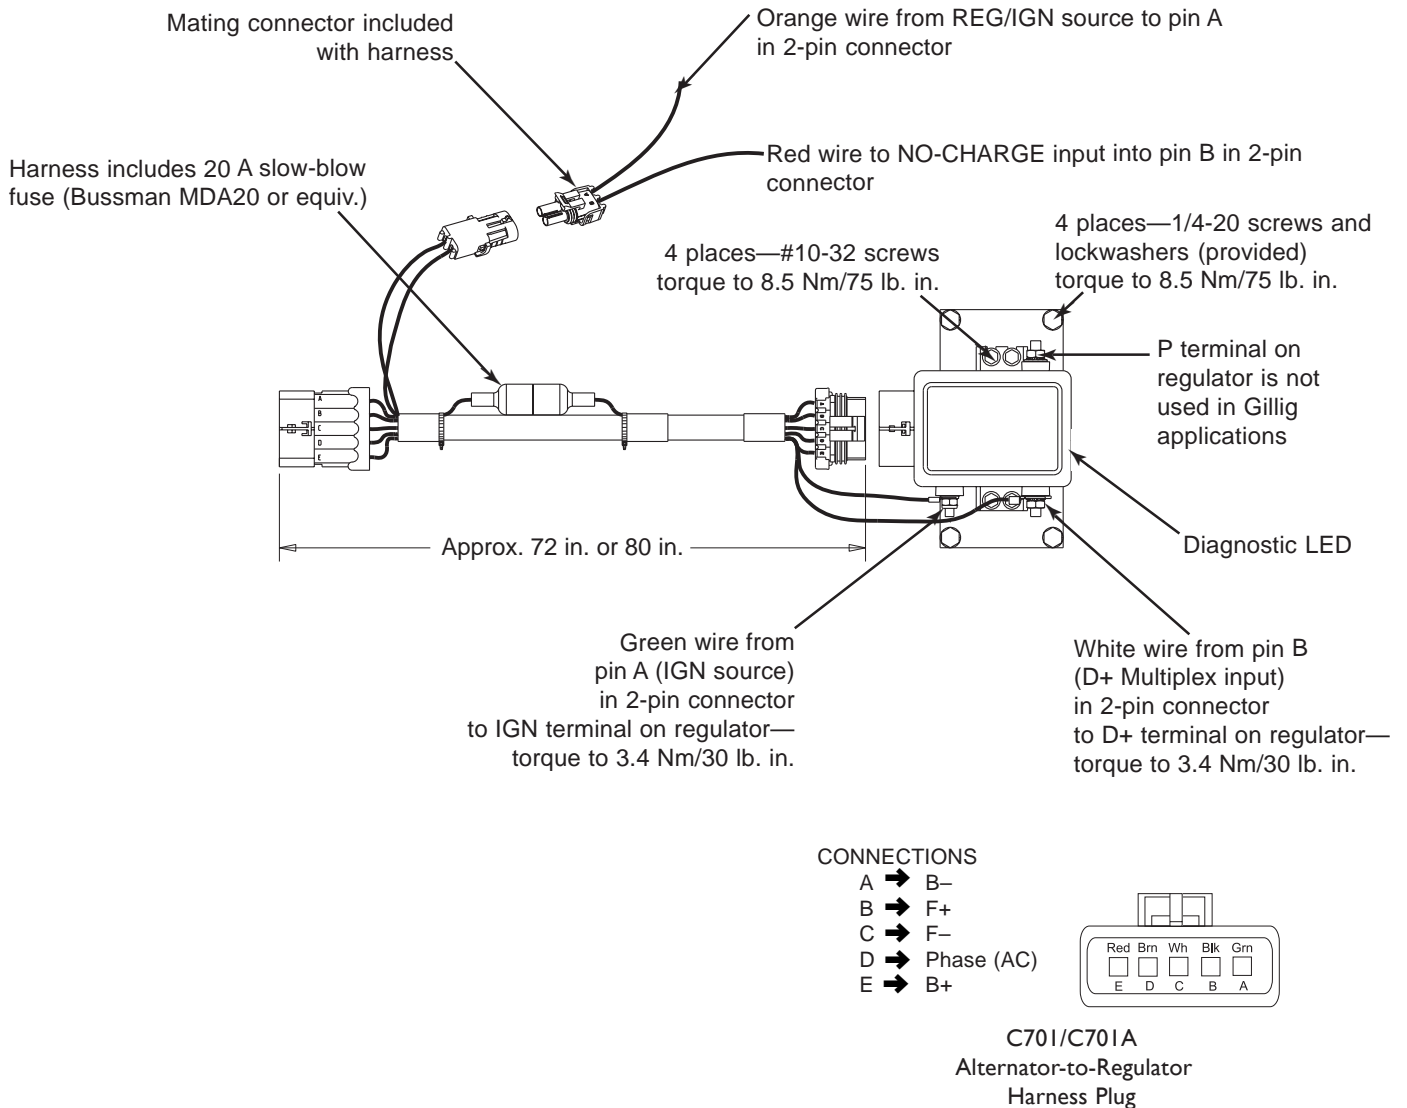

Figure 1 – A2-322 Regulator Remote Mount with Extended Alternator Wiring Harness
To troubleshoot the A2-321 or A2-322 regulators with extended wiring harness (see Figure 1 or 2):
1. Make sure all connections follow Figure 1 or 2 for appropriate harness.